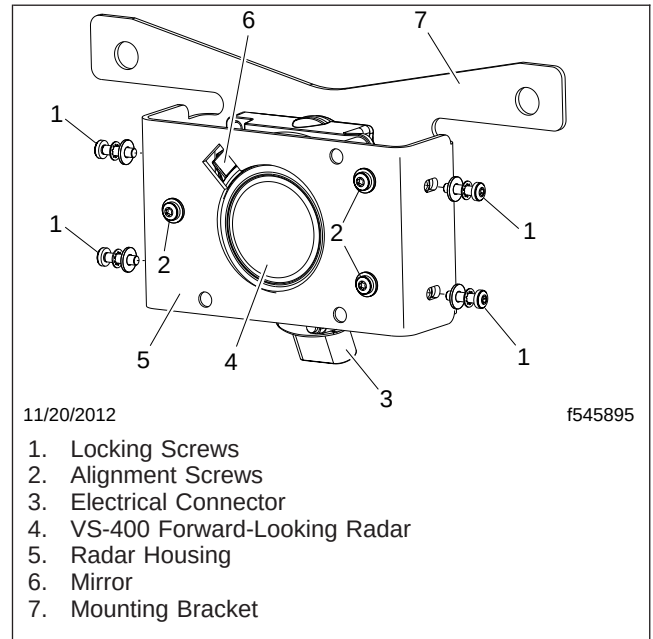

Fig. 1, VS-400 Module, Mounted on the Forward Frame Rail
5. Loosen the four locking screws on the sides of the radar housing. See Fig. 1.